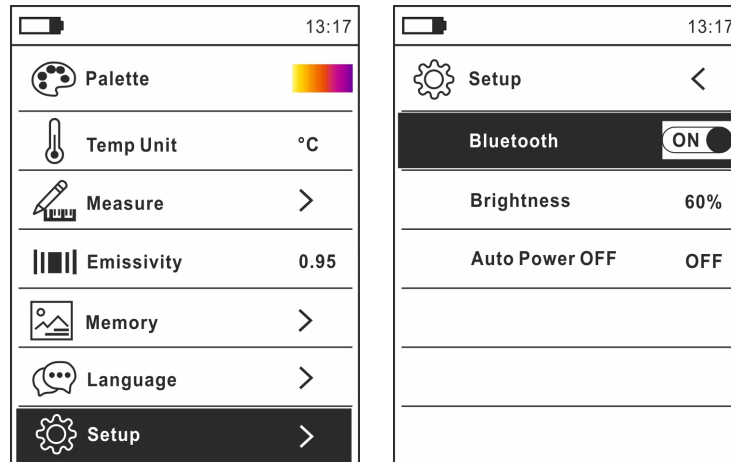

Fig. 18: Activation of Bluetooth connection
1. Press key , select menu “Settings” and activate the Bluetooth connection on the instrument (see § 5.2) as shown in Fig. 18